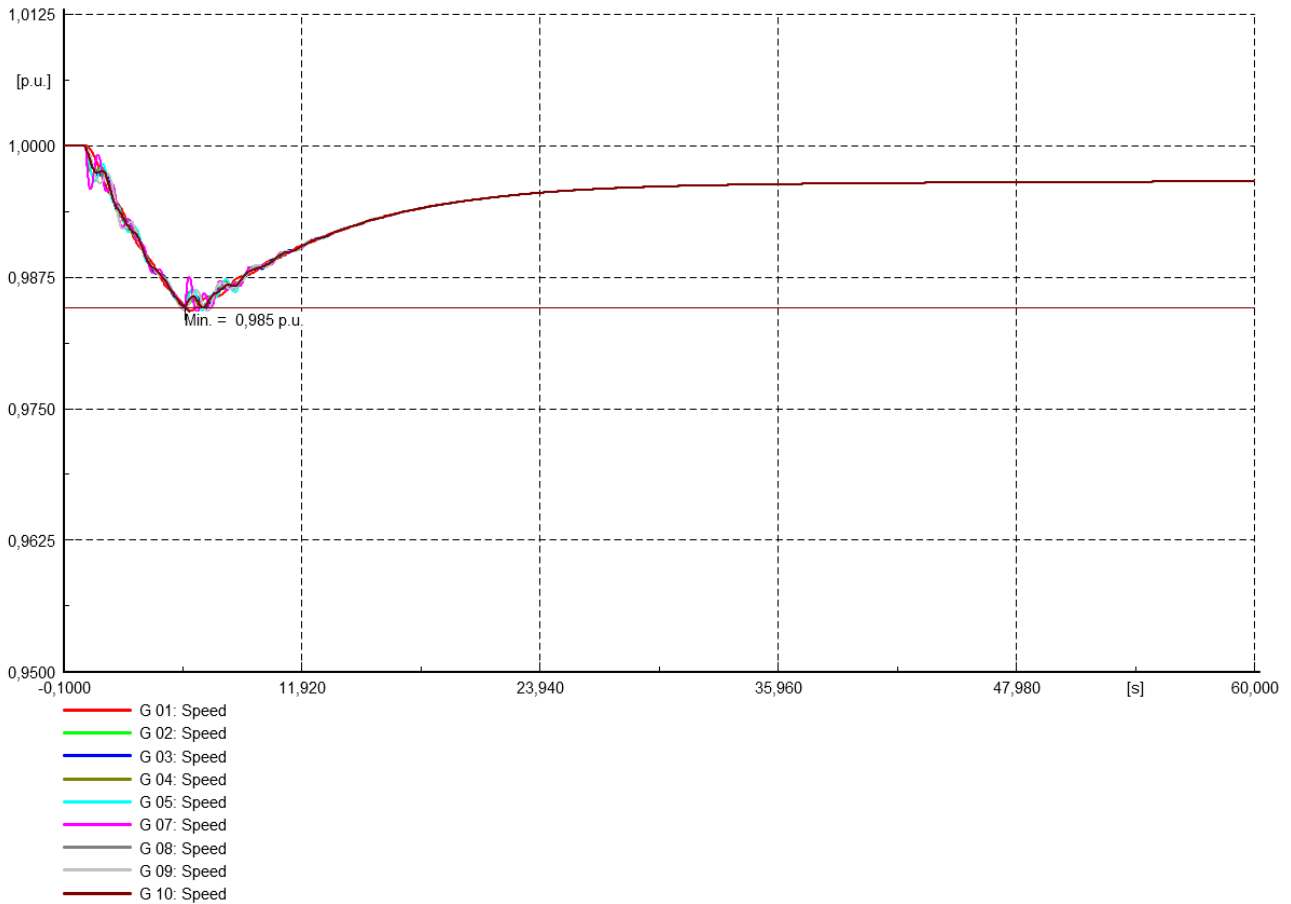

Figure 2.3: G 06 Trip with UFLS at Load 21 and 23
**Case 3:** Right click on the Study Case “03\_G 06 Trip with UFLS23\_21” and activate it. When UFLS at Loads 21 and 23 is in service, the following plot as shown in the figure 2.3 shows the frequency response of the system.